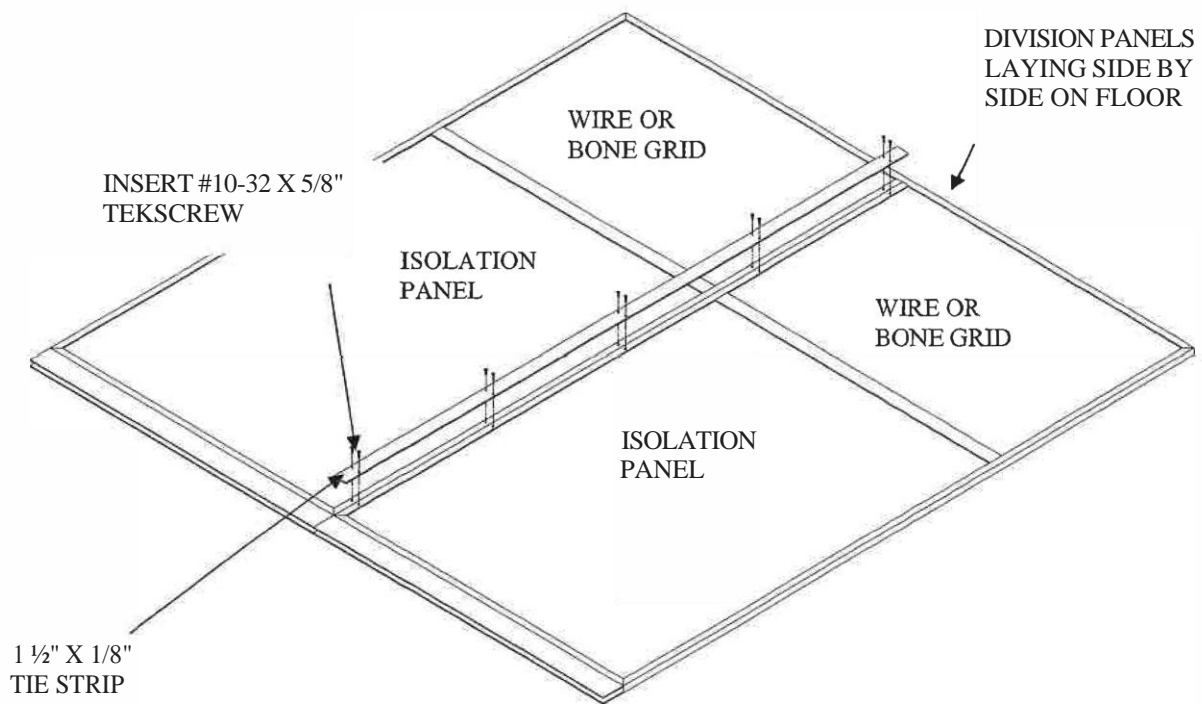

Figure 3
2. Align the top surfaces and pull the mating edges together tightly. Center the "tie plate" over the seam between the two panels as shown in Figure 3. The tie plate can be applied to either side of the panels but for appearance sake you may want to apply them consistently to the same side. Hold the panels and the tie plate so that they are flush at the top edge of the division panels and tightly pulled together.